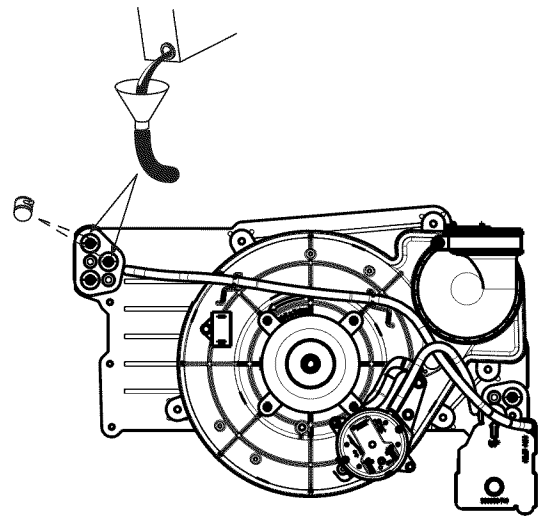

Fig. 57 - Priming Condensate Trap
4. Remove the top unused rubber plug from the port on the collector box opposite the condensate trap. See Fig. 57.
9. Remove the middle unused rubber plug from the port on the collector box opposite the condensate trap. See Fig. 57.